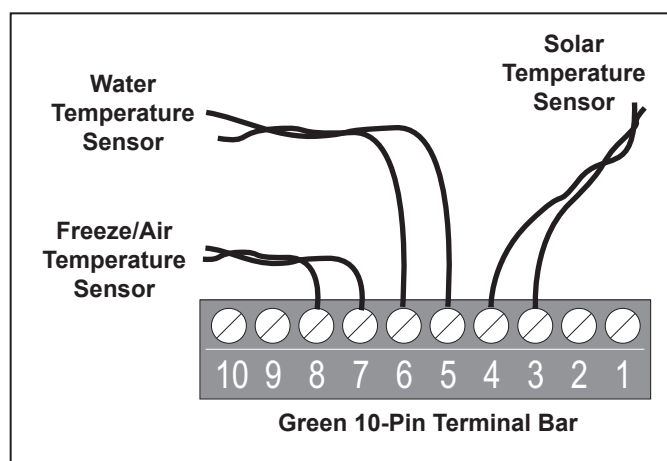

Figure 19. Temperature Sensor Wiring for a Pool/Spa Combination
4. Run the wire to the power center, through the low voltage raceway. Cut off excess wire. Strip the wire jacket back 6", then strip each wire 1/4". Connect sensor wires to the green, 10-pin terminal bar (see Figure 19).